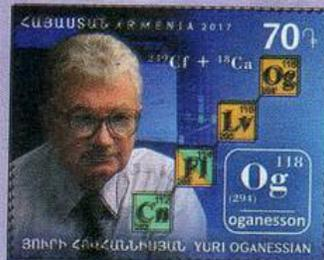

Figure 4.1: An Armenian stamp issued in 2017 to celebrate Yuri Oganessian after whom element 118 is named.
- **element 118** – oganesson, (Og): is named after the Armenian nuclear physicist Yuri Oganessian (Figure 4.1), who has played a leading role in the search for new elements.
- 1 What are the names of the elements with the symbols Lv, Fl and Cn shown in the stamp (Figure 4.1)? Which places, or people, were these elements named after? What is significant about the names of the elements Cm and Mt?